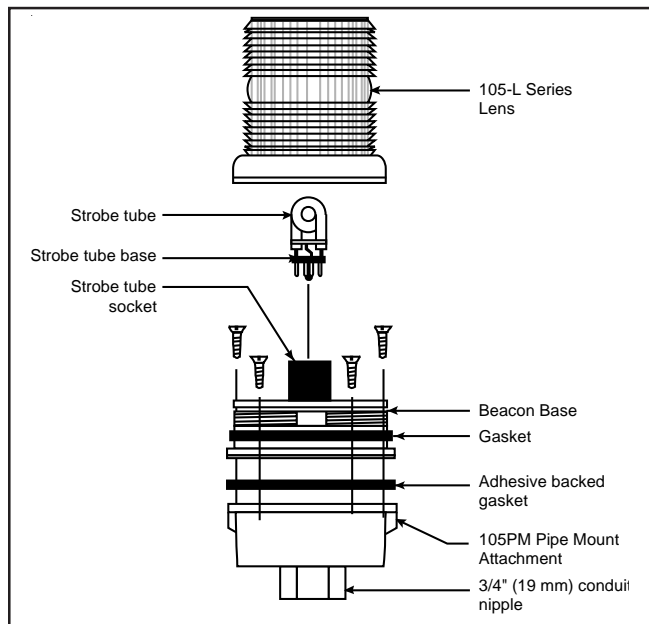

Figure 2. Securing the Beacon to the Mounting Attachment (Pipe Mount Attachment shown)
4. Mount 105SLED, 105FLED, 105SINH, 105FINH, and 105ST Series as follows. **For 105HIST Series proceed to step 7.** Unscrew the gasketed base from the lens assembly as shown in Figure 2 and remove the clear gasket from around the base.
- a. Grasp the strobe tube by its base and pull straight up out of the strobe tube socket (Figure 2).